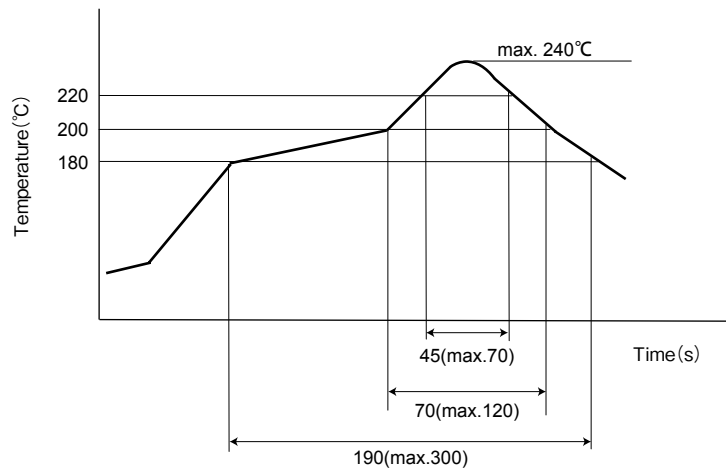

Figure 5.7 (1) Temperature Profiles
- <4> Temperature profile: Refer to Figure 5.7 (1)